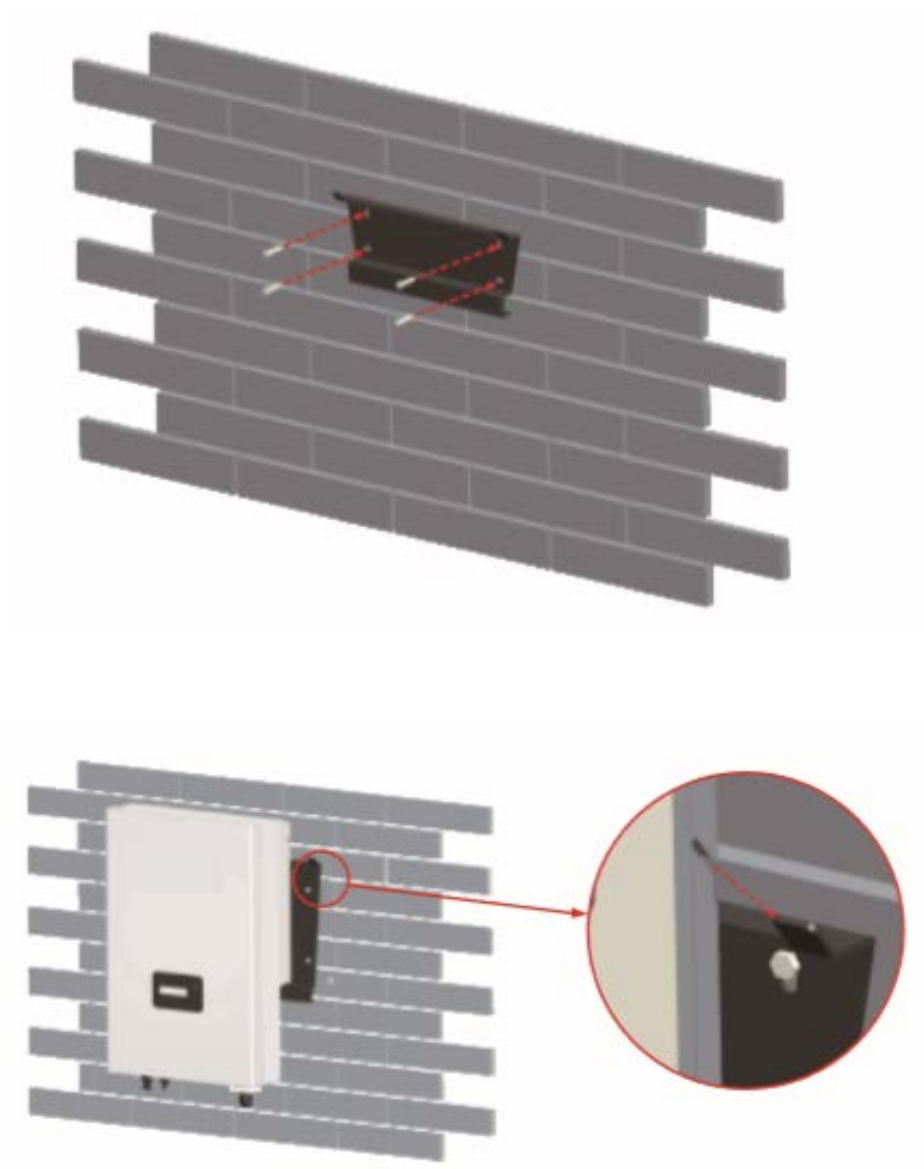

Figure 8 Bracket & Inverter Installation
3. Use the bracket to install the inverter onto the narrow vertical panel (or wall). Put upper-part holes of the inverter onto the bracket. (See figure 8).